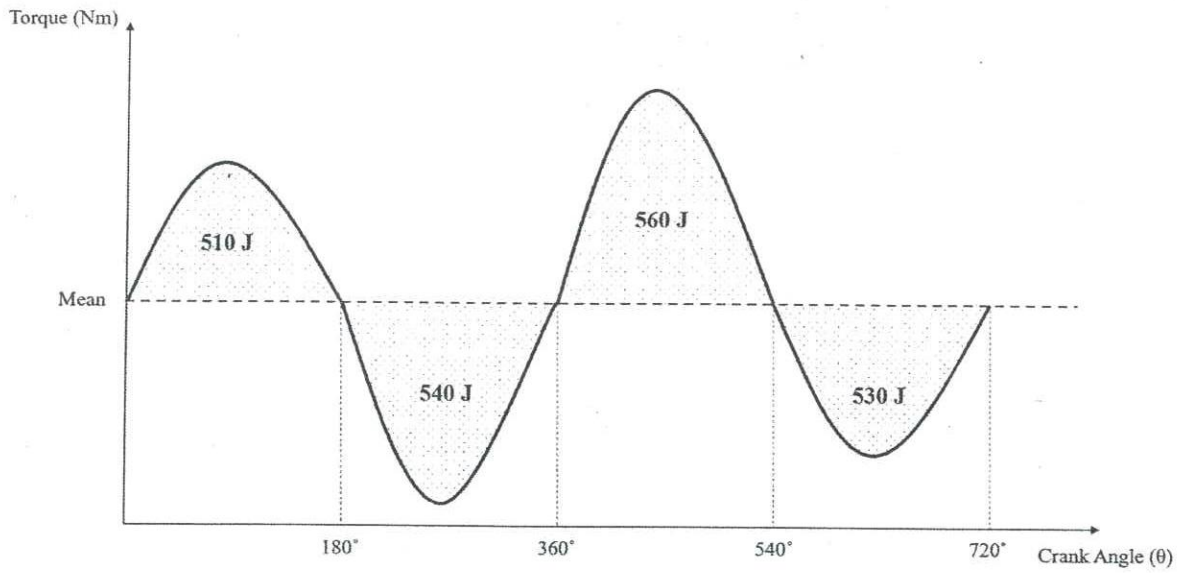

Figure Q4(c): Torque-crank angle diagram
- The Torque - Crank Angle diagram for a crank piston engine is given in Figure Q4(c). The work done during each step is indicated in the diagram, and the crank shaft needs to maintain the speed within the range 540 - 550 rev/ min.